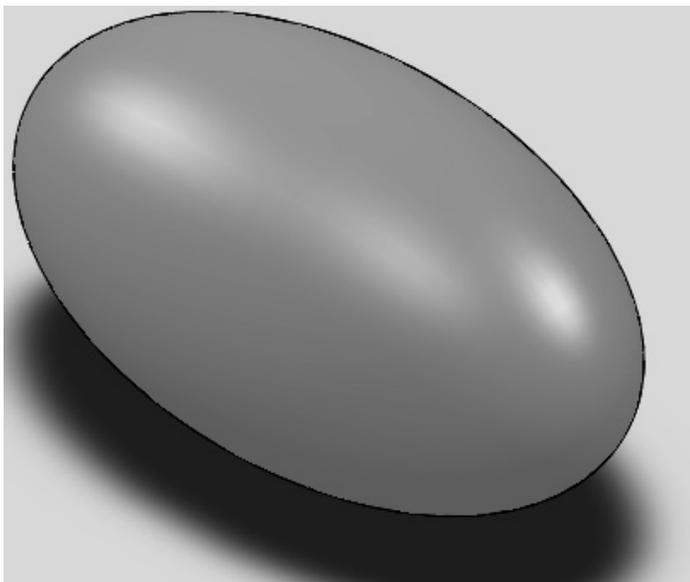

Figure P-4 Rugby ball
- Use the information in the ellipse section (refer to Figure 2-10) to create the rugby ball model shown in Figure P-4.